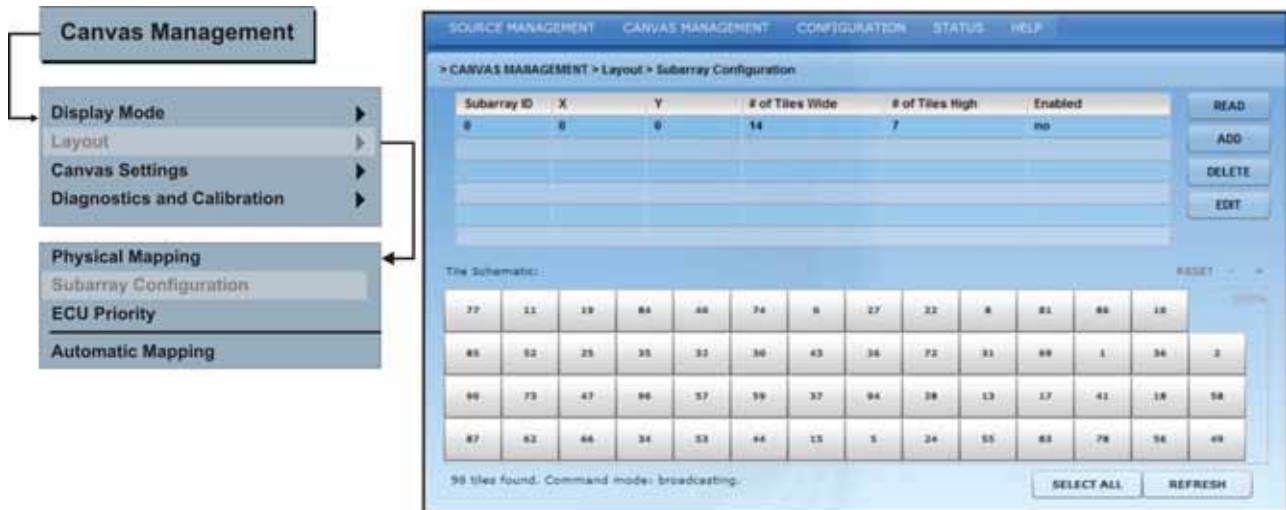

Figure 3-24 Subarray Configuration
Subarray Configuration enables users to display two images on an array or to increase the input resolution. In order for this to function multiple ECUs must be connected to the array and automatic mapping must be enabled. For information on how to connect multiple ECUS, refer to 2.2.8 Cable Routing, on page 2-10. To access the Subarray Configuration screen click on the Canvas Management menu and select **Layout>Subarray Configuration (Figure 3-24)**. **NOTE:** *Subarray configuration is not available via the OSD.*
1. All the subarrays saved to the master ECU are shown in the spreadsheet (**Figure 3-24**). To populate the spreadsheet click **Read**.